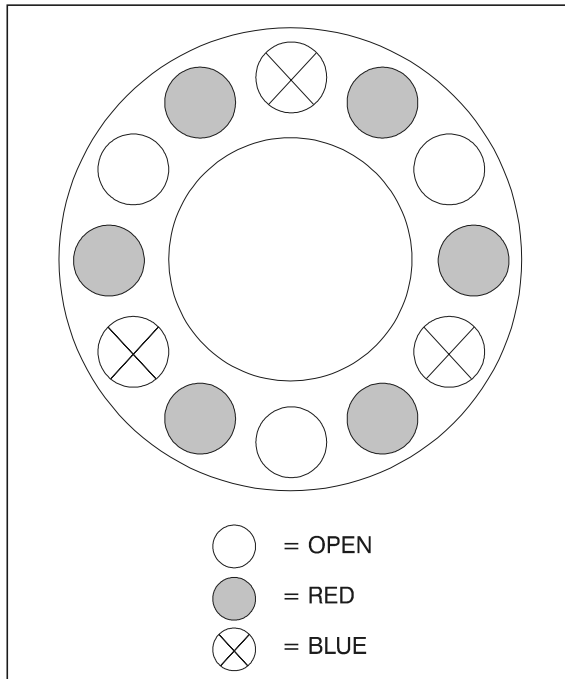

Figure 3-6. Spring Loading
5. Insert dowel pins (17), spring guide (16) and springs (5,6) in housing (7) as shown in Figure 3-6., Spring Loading.